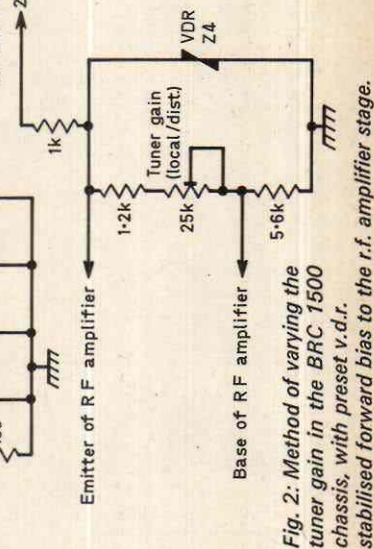

Fig. 2: Method of varying the tuner gain in the BRC 1500 chassis, with preset v.d.r. stabilised forward bias to the r.f. amplifier stage.
A.G.C. is not applied to the tuner, the front-end gain being preset by a v.d.r. stabilised circuit as shown in Fig. 2. This is normally set for maximum gain but for strong inputs it may be necessary to reduce the setting to avoid risk of cross-modulation.